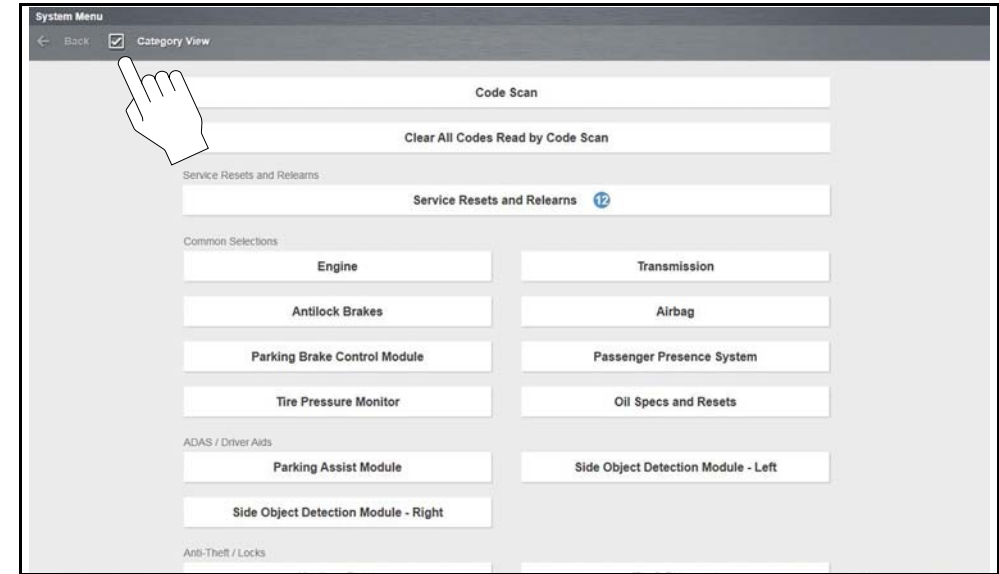
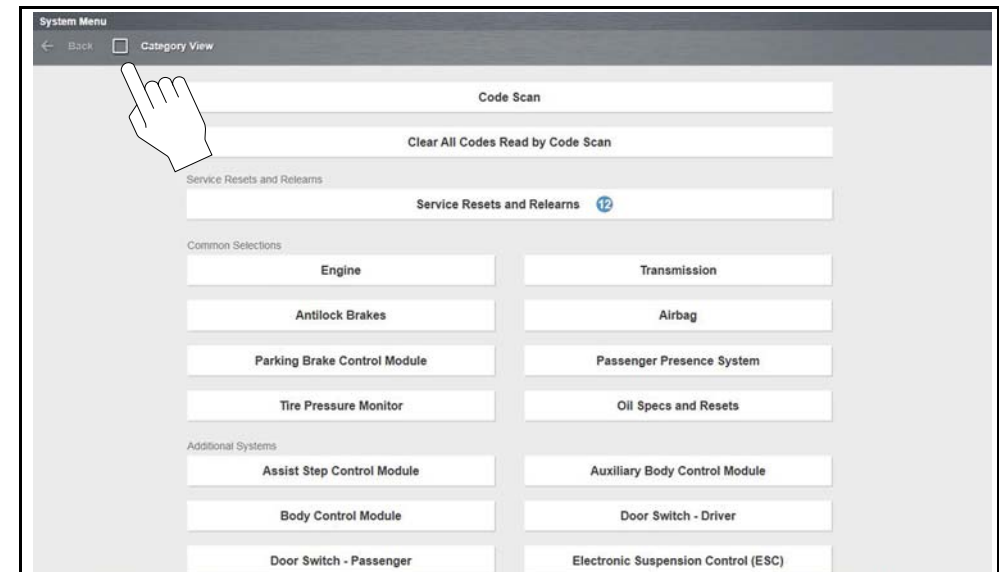

Figure 4-3 Typical - System Menu "Category View" Selected
Figure 4-4 Typical - System Menu "Category View" Not Selected
- After the vehicle has been identified, the Systems menu will display available vehicle systems (Figure 4-3).
- The System menu can be displayed in two views, by individual system categories or by common vehicle system categories. To change the view, select/deselect the **Category View** checkbox in the upper toolbar. Typical views are shown in (Figure 4-3 and Figure 4-4).